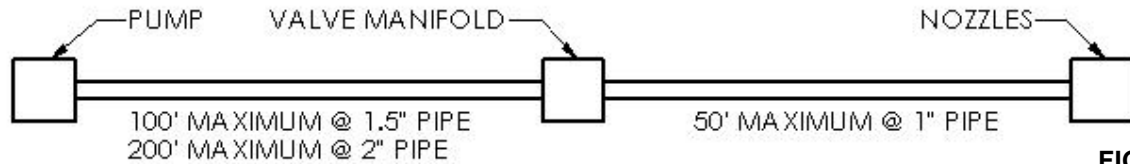

FIGURE 7
21. **The distance from the pump to the valves and from the valves to the nozzles is important.** Depending on the distance, the diameter of pipe needs to vary for optimal performance. **TABLE 1** and **FIGURE 7**, below, show the size of pipe required for varying distances of pipe.